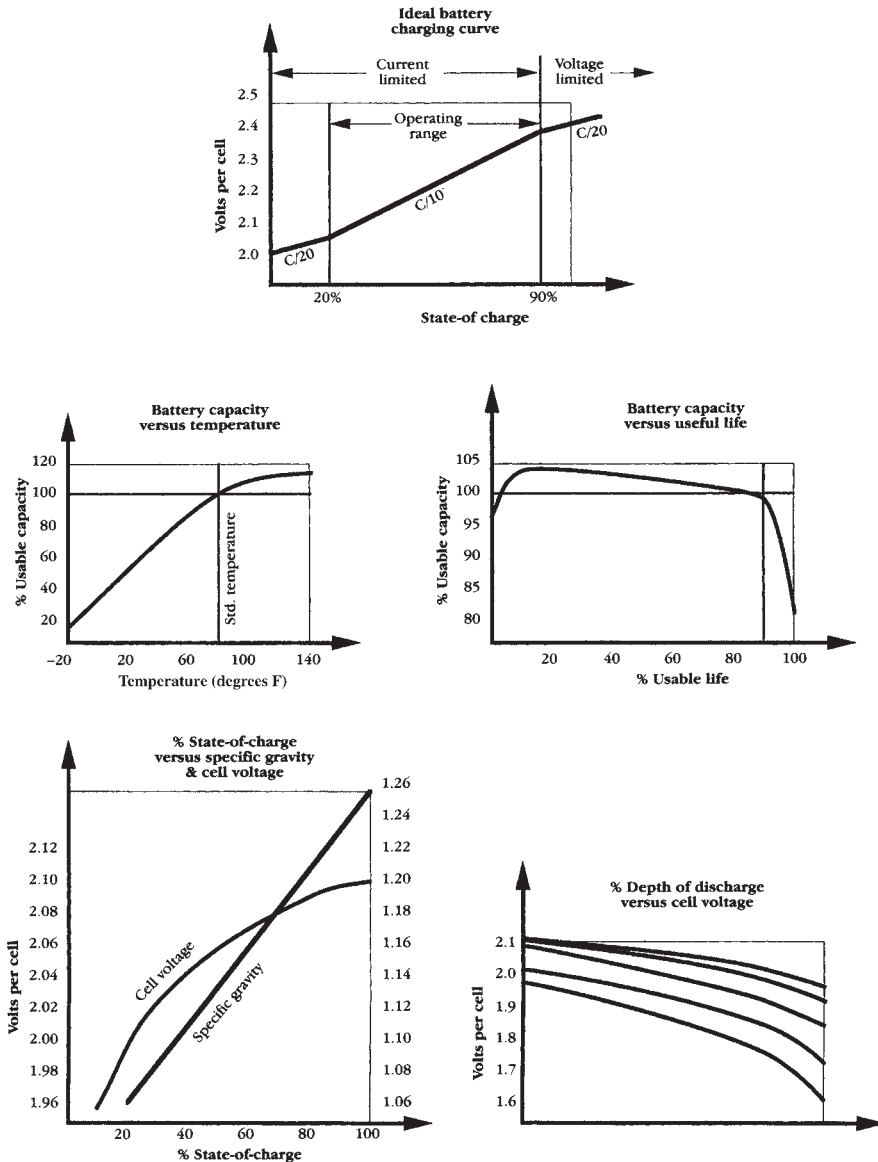

FIGURE 8-2 Lead-acid battery charging and discharging characteristics.
- Unlike with discharging, you can control the destiny of your batteries during the charging process. In fact, it's vital that you do, because both overcharging and undercharging shorten battery life. Continually overcharged or too rapidly charged batteries can be destroyed; constantly undercharged batteries become sulfated and inefficient. Chapter 9 covers modern battery rechargers that can help you. The top of Figure 8-2 shows the ideal battery charging curve.
Because the energy stored in a lead-acid battery is dependent on a chemical reaction, everything about it is affected by temperature: capacity, voltage, current, etc. Because the lead-acid chemical reaction is most efficient at 78 degrees F, most battery manufacturers rate their batteries at this “standard” temperature. The middle-left diagram in Figure 8-2 shows that the output of a battery is strongly affected by the
Battery capacity is also highly dependent on age. The middle right diagram in Figure 8-2 shows that the battery's capacity starts at about 95 percent when brand-new, rises to about 105 percent after it has been used for about 20 percent of its lifetime, stays fairly level, then drops off rapidly after 90 percent of its lifetime. One observation is that a brand new EV battery pack will not give you as good a result as one that's been used awhile. Another observation is that once you begin to see battery performance go down significantly, it's time to think about buying another set.
An examination of Figure 8-2's temperature curve suggests its corollary—that batteries kept at cold temperatures don't discharge themselves at all. True, but you also can't get the energy out of the battery for your own use at cold temperatures! If you are planning to store your batteries for a few months, 40 degrees F is the best temperature. Fully charge your batteries before storage and warm them up before using them.
The lower left graph of Figure 8-2 shows why specific gravity has been used as a battery state-of-charge indicator for so long: it's an easy-to-use-and-understand straight line. Unfortunately, it doesn't show you that temperature directly affects specific gravity (specific gravity measures higher at lower temperatures). In addition, the device used to measure it, the bulb hydrometer, is prone to calibration, compensation, and readout errors because you're typically measuring in the range from 1.100 to 1.300 to three decimal places. And if you use a hydrometer on a regular basis, it's virtually guaranteed that you'll contaminate one or more battery cells.
The maxim “haste makes waste” is absolutely true when discharging batteries. The lower-right graph of Figure 8-2 shows that the faster you discharge your batteries, the lower the voltage (the less capacity) you have. If you take more and more from less and less, eventually you wind up with nothing at all—a polite way of saying over-discharging kills battery life.